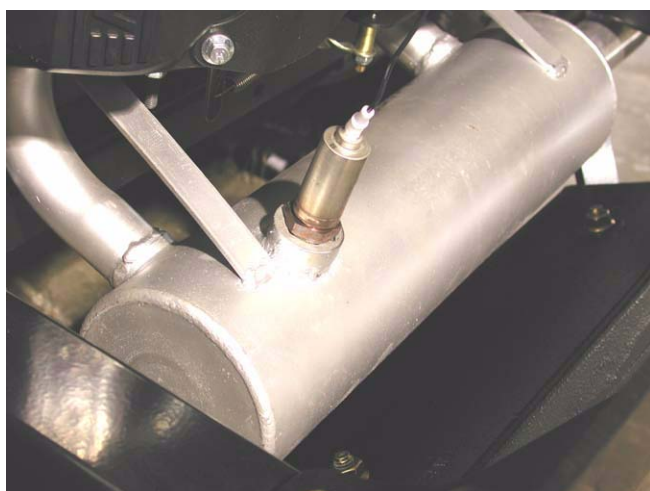

Figure 11.15
- 11.15. The exhaust gas oxygen (O₂) sensor contains a palladium insert. When oxygen passes by palladium, an electrical current is generated. Depending on the amount of oxygen flowing by the sensor, it will generate between 0.10 and 1.00 volts. See Figure 11.15.